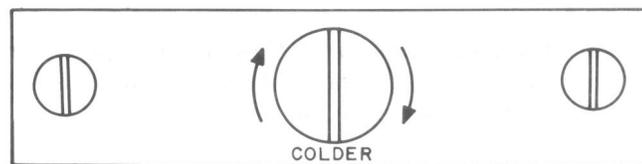

Fig. 32—Elkay Drinking Fountain Temperature Control
8.06 Normally no adjustment is necessary to the factory preset thermostat. However, if adjustment is necessary, the drinking fountain cabinet must be removed to gain access to the water thermostat temperature control (Fig. 32). To raise the water temperature, turn adjusting screw to the left (counterclockwise). To lower the water temperature, turn adjusting screw to the right (clockwise). One-half turn will normally raise or lower water temperature 4° to 5°F.